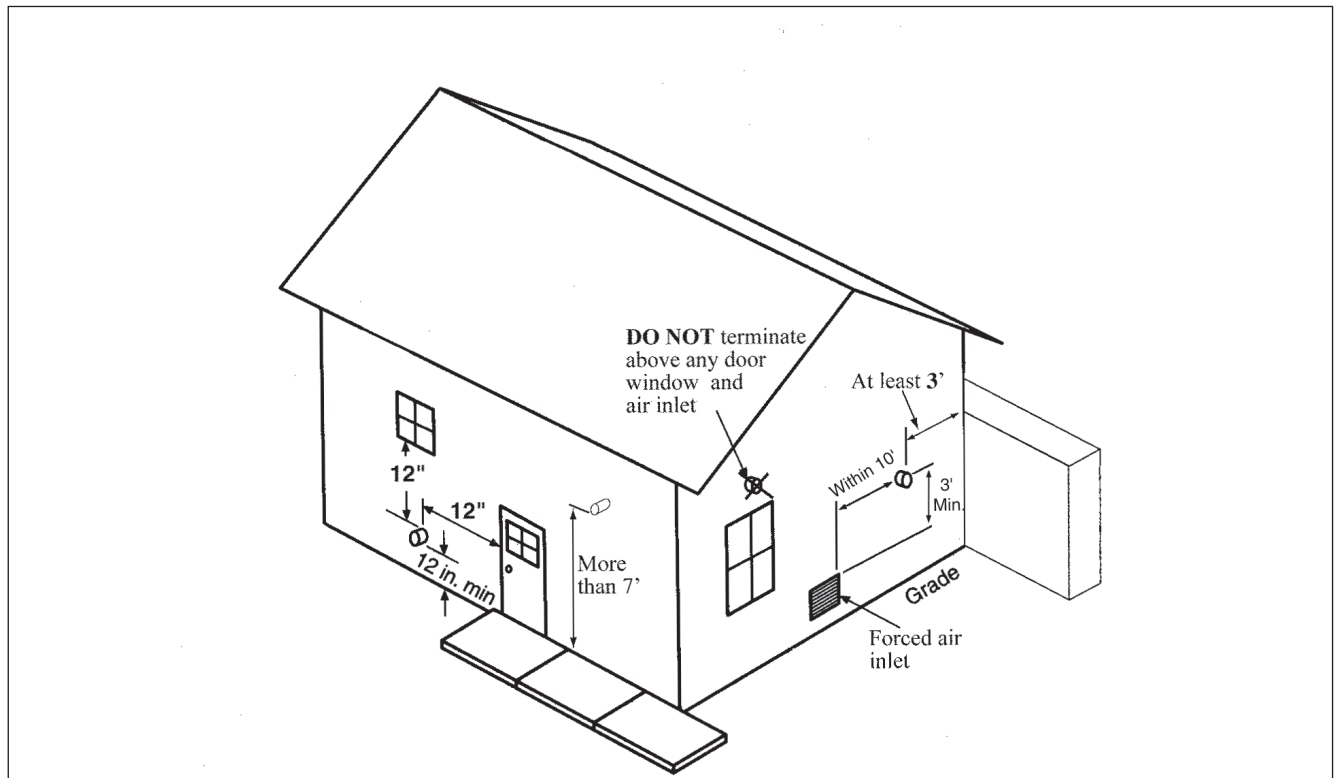

Fig. 2 - Termination Clearances of Direct Vent System
6. The vent termination must also maintain the following clearances, as shown in *Fig. 2 on page 9*:
6. The vent termination must also maintain the following clearances; as shown in *Fig. 2 on page 9*.